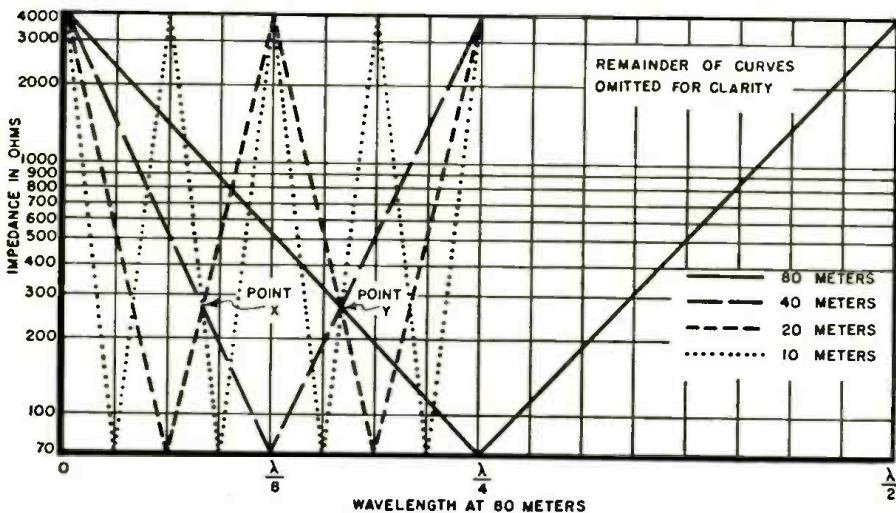

Fig. 1. Impedance vs wavelength for 80-meter antenna. See text on Points X and Y.
impedance to the transmission line when operating on several different bands. Fig. 1, which is a logarithmic plot of impedance versus antenna length by bands, shows that there are many points on an antenna where the impedance is the same for different bands. Also, the points lie very near the 300-ohm line on the chart.
If point X in Fig. 1 is chosen, it can
Fig. 2. Breakdown of graph of Fig. 1 showing impedance-wavelength characteristics of same antenna on even-harmonic bands. (A) Fundamental, 80 meters. (B) Same wire, same feedpoint at 40 meters. (C) Same, 20 meters. (D) No change found at 10 meters.